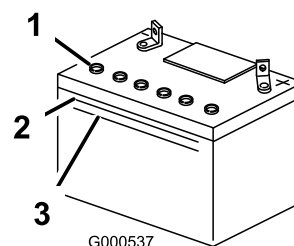

Figure 55
3. Look at the side of the battery. The electrolyte must be up to the **upper** line (Figure 55). Do
not allow the electrolyte to fall below the lower line (Figure 55).
5. Remove the vent caps from the battery (Figure 55).
6. Slowly pour distilled water into each battery cell until the electrolyte level is up to the Upper line (Figure 55) on the battery case.
7. Wait 5 to 10 minutes after filling the battery cells. Add distilled water, if necessary, until the electrolyte level is up to the Upper line (Figure 55) on the battery case.